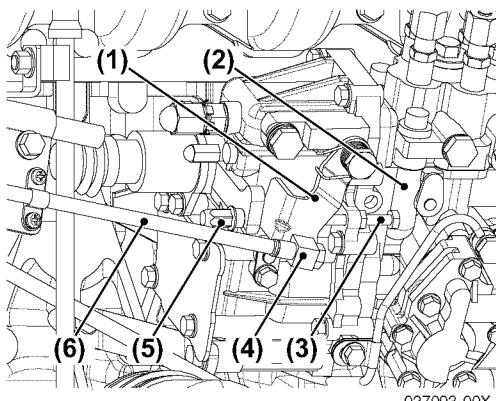
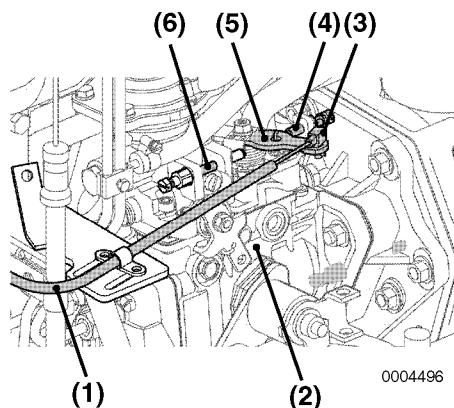

Figure 5
Figure 6
- To adjust, loosen the adjustment screw (**Figure 5, (4)**) or cable fitting (**Figure 6, (3)**) for the remote control cable on the engine side and adjust.
- Adjust the high-speed stop (**Figure 5, (5)**) or (**Figure 6, (6)**) position first and then adjust the low-speed stop (**Figure 5, (3)**) or (**Figure 6, (4)**), with the adjustment screw on the remote control lever (**Figure 5, (1)**) or (**Figure 6, (5)**).